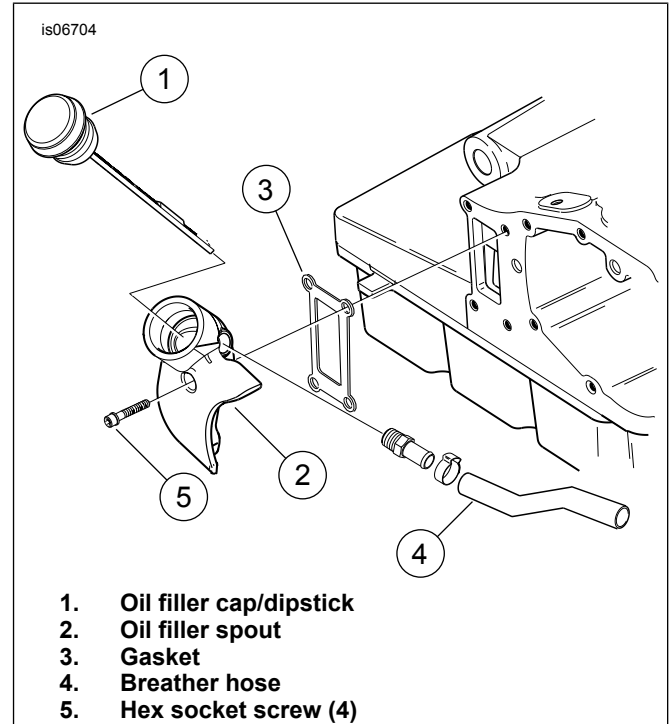

Figure 1. Remove Oil Filler Spout (FLT Only)
4. For all except FLT Models: Install the new starter according to the STARTER INSTALLATION instructions for the original equipment starter found in the Service Manual. For FLT Models: When installing this starter on FLT model motorcycles, remove the oil filler spout. See Figure 1. To remove the oil filler spout on FLT Models:
- b. Remove the oil filler cap/dipstick (1) and set aside.
- c. Leave the breather hose to the oil filler spout (item 4, if so equipped). Remove the four hex socket screws (5) holding the spout to the transmission housing. Remove the oil filler spout. Wrap with a shop rag and set aside.
- f. Place the new gasket (3) in position, and attach the oil filler spout. Tighten the screws to 7-9 ft-lbs (9.5-12.2 Nm).